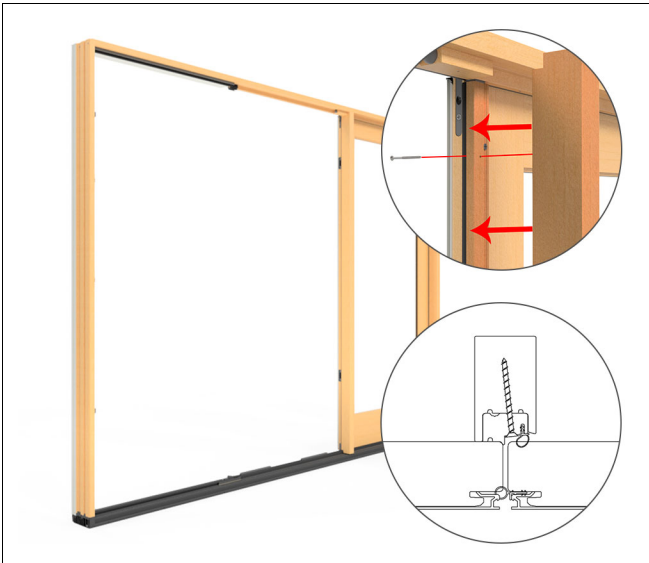

Figure 57
11. Before installing the second panel, attach the mull cover to the mull base with #7 x 2" screws. Use the pre-drilled holes in the astragal base as a guide. See Figure 57.